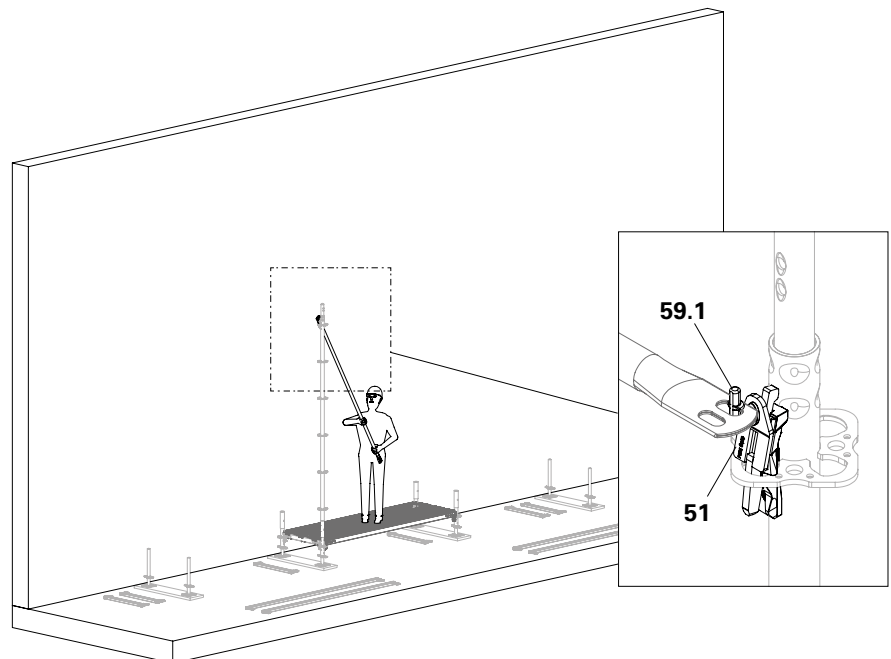

Fig. B2.06
3. Attach the Guardrail Post EPG (**51**) to the guardrail hook (**59.1**) of the guardrail holder, see "A3 System components: Lateral protection" on page 23 ff. (Fig. B2.06)